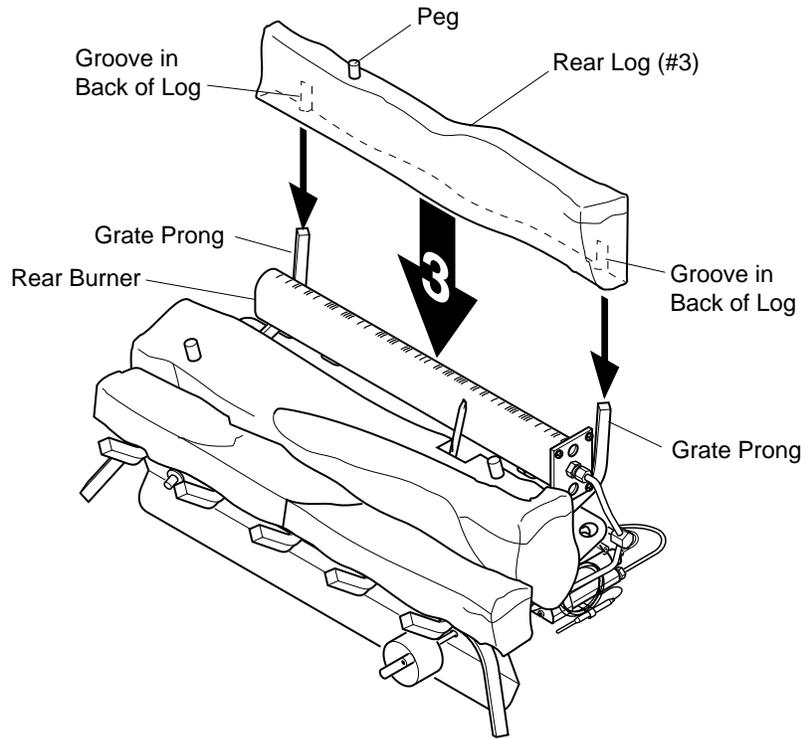

Figure 19 - Installing Rear Log (#3)
- Slide the grooves in the back of the rear log (#3) against the rear grate prongs. Make sure the peg on the log is on top (see Figure 19).